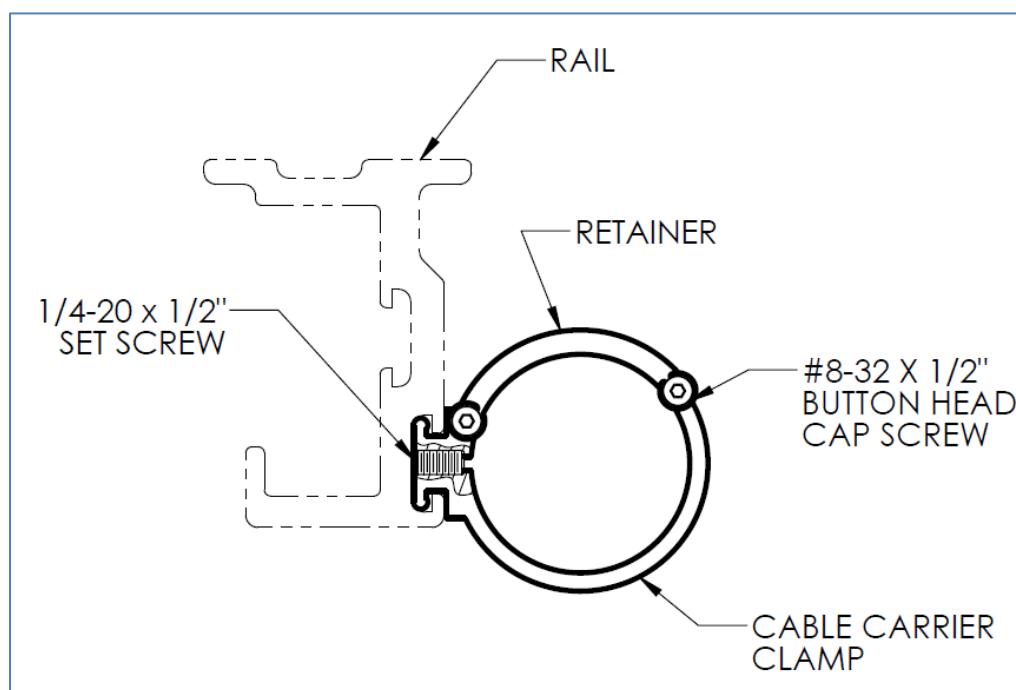

Figure 12
1. Determine which rail end the stationary cable handling kit will be positioned. If it is to be at the far end of the rail, slide kit into rail track prior to positioning the mobile cable handling kit. If stationary kit is to be positioned at the near end of rail, slide into rail after positioning mobile cable handling kit. Stationary kit is typically mounted approximately 6 inches (15cm) from rail end. See Figure 12.